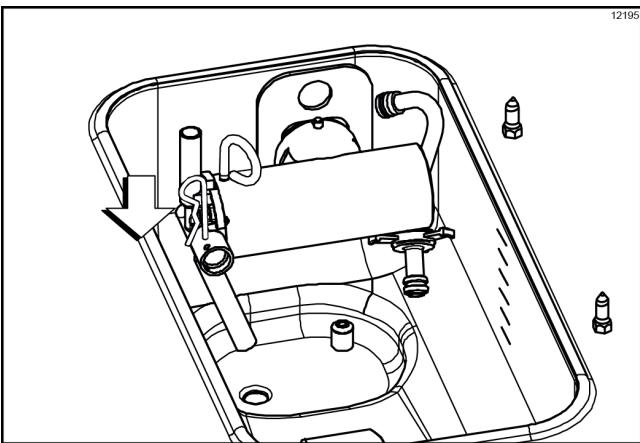

Figure-166
12. Remove the cotter pin from the pump. Stand the mix feed tube in the corner of the mix hopper. Place the cotter pin in position in the outlet fitting of the pump. (See Figure-166.)